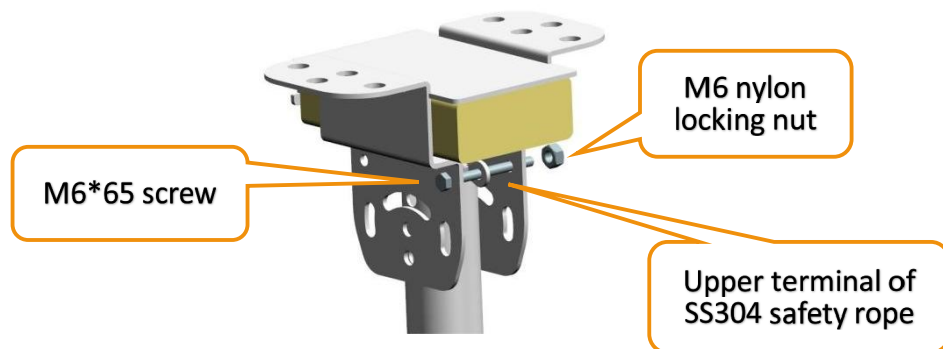

Figure. 3.4
④ Connect the safety rope by inserting a M6*65 hexagonal screw through the holes beneath the controller frame, and passing the upper terminal of SS304 wire rope which is extended from the middle of the extension tube (see Figure 3.4). Then use flat washer, spring washer, and a M6 nylon locking nut to fasten